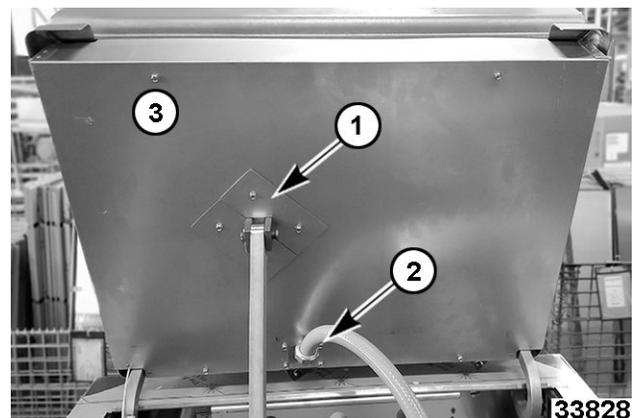

Fig. 46
- A. Remove lift arm (1, Fig. 46).
- B. Remove conduit (2, Fig. 46) connection.
- C. Remove bottom panel mounting screws (3, Fig. 46).